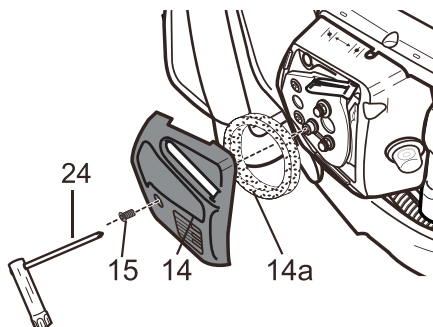

Fig. 26
- > Open the air filter case by loosening the fixing screw (15) with the Multi tool (24).
- > Remove the screw, cover (14) and take the filter (14a) out (Fig. 26).